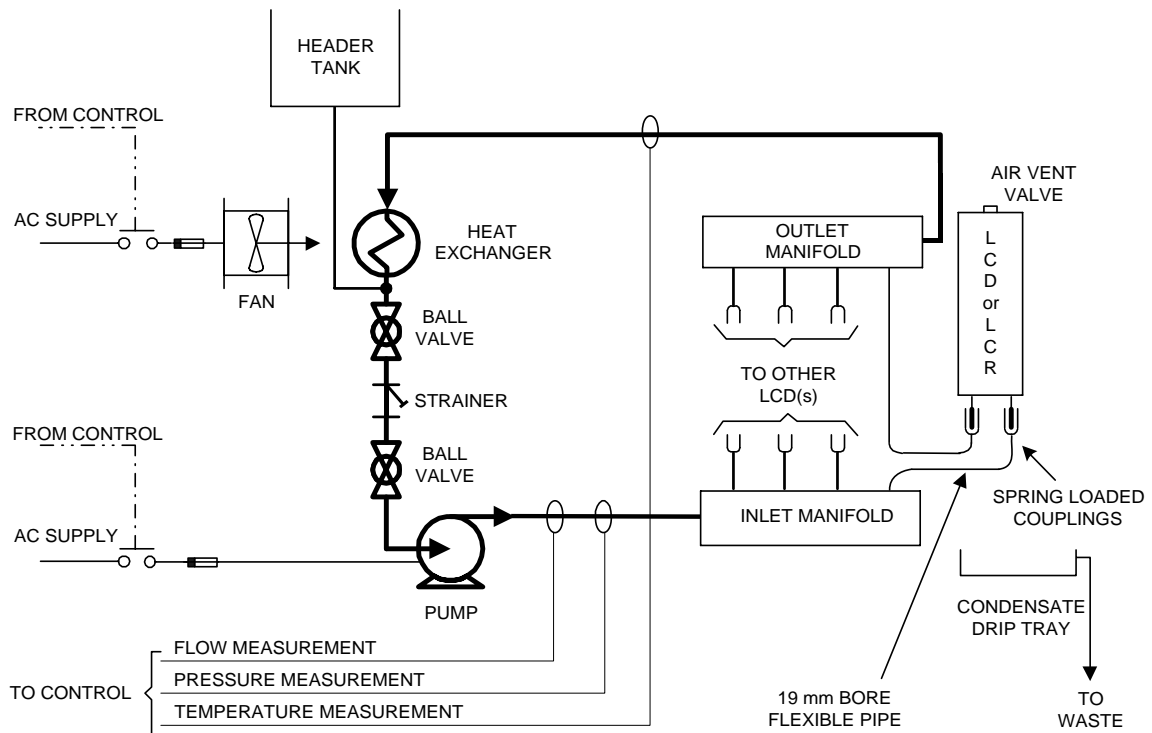

Figure 3-1 A Typical MV LCD Cooling System
The MV Liquid Cooled DELTA (MV LCD) module liquid cooling system depends upon specific requirements for each particular application and therefore requires separate consideration of its design at the system integration stage. This section, which includes details relating specifically to the Cooling System Design, should also be read in conjunction with Section 2 - SPECIFICATION which includes all the specifications for the MV LCD modules. The details included in this Section 3, for Cooling System Design, include integration of the cooling system control, protection and instrumentation features within the drive system and outline specifications for the hardware and coolant required for a complete cooling system. Outline specifications are included for the heat exchanger, the coolant pump, the header tanks and associated fittings and all piping and couplings. A detailed specification is included for the coolant and guidance is given about safe use, handling and disposal of the recommended coolants. A typical cooling system is shown at Figure 3-1.
- (b) the flow and return pipes should be positioned to ensure equalisation of coolant flow when piping to multiple modules e.g. the first connection from the inlet manifold connects to the FLOW coupling of the first liquid cooled product. The RETURN coupling from this module would connect to the last (end) connection of the outlet manifold - see Figure 3-1;